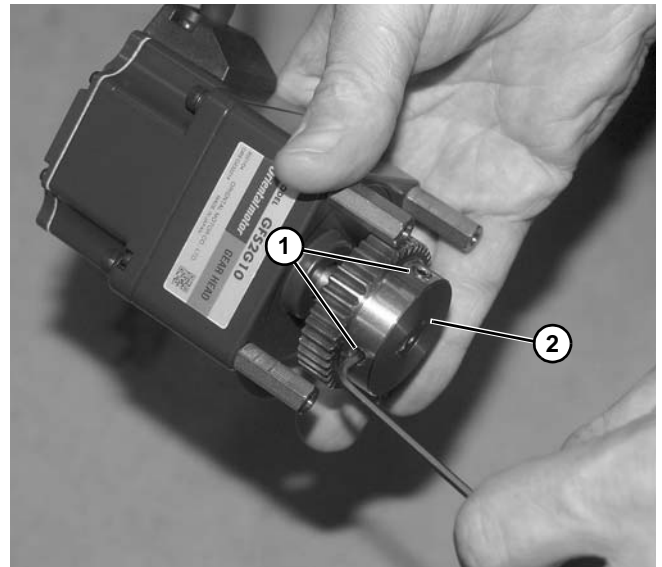

Figure 150
7. Loosen two set screws (**Figure 150, item 1**) securing gear (**Figure 150, item 2**) onto drive motor.